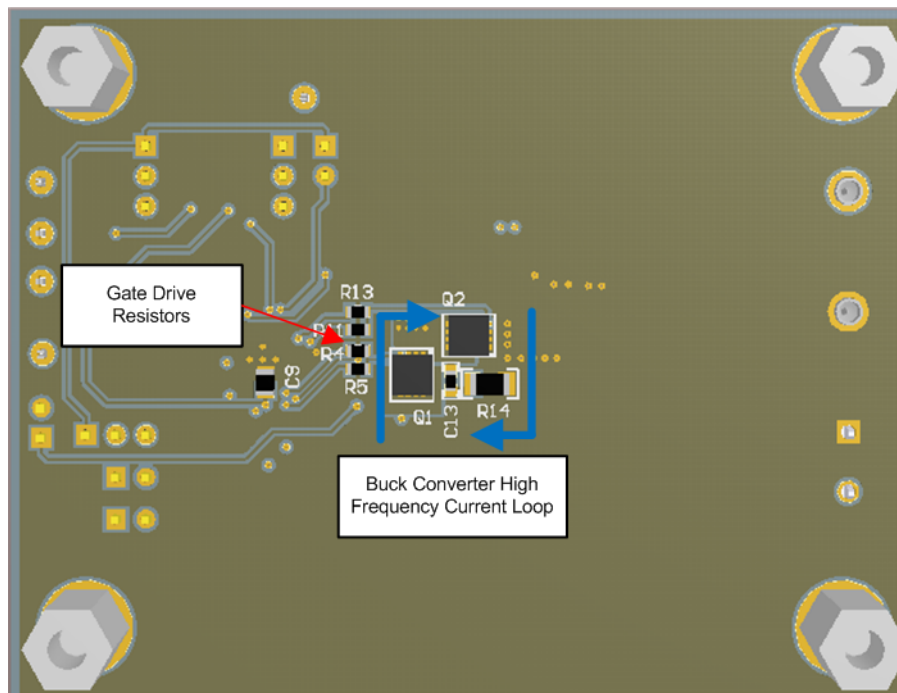
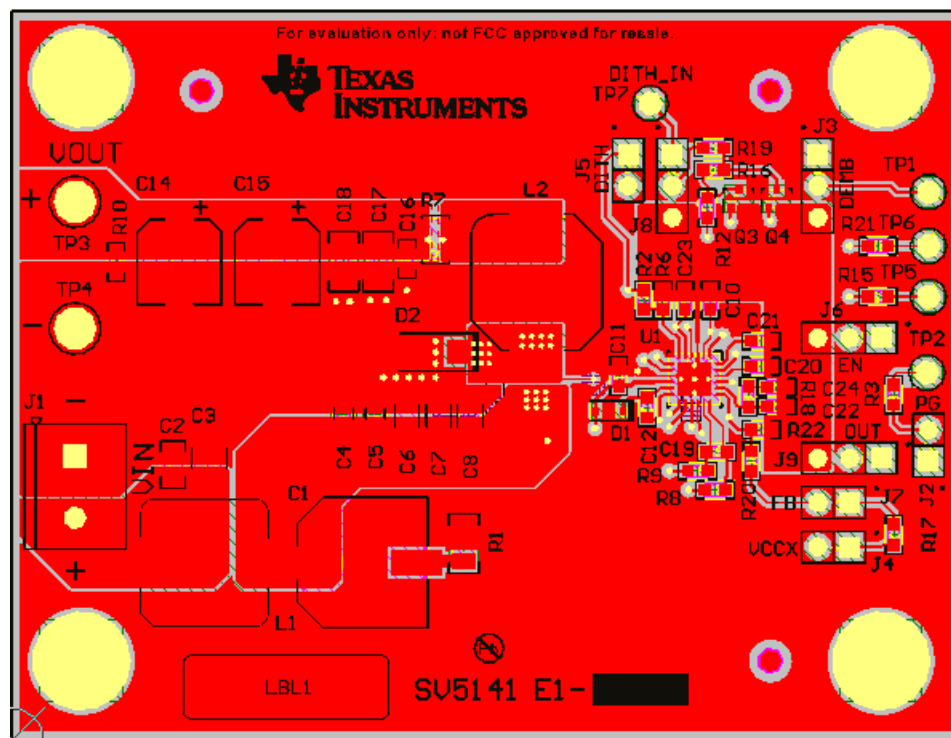
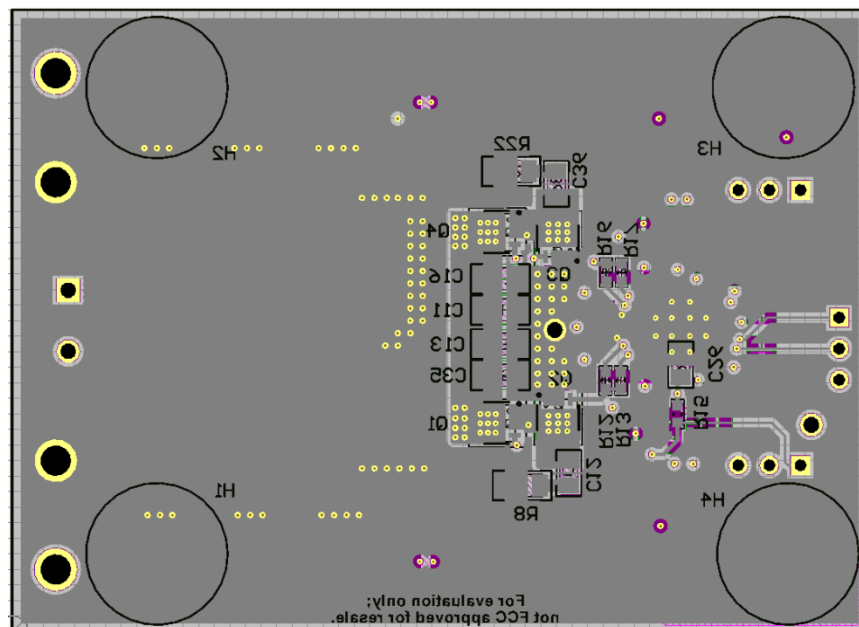

Figure 39. EVM Bottom Layer, High Frequency Current Loop
Figure 41. EVM Top Layer
Figure 42. EVM Bottom Layer
- Figure 39 shows the high frequency loops of the synchronous buck converter. The high frequency current flows through Q1 and Q2, through the power ground plane and back to V_{IN} through the ceramic capacitors C6, C7, and C8. This loop must be as small as possible to minimize EMI. Refer to Figure 41 and Figure 42 for the recommended PCB layout.
Figure 41 and Figure 42 show the Top and Bottom layer of the LM5141-Q1 EVM.